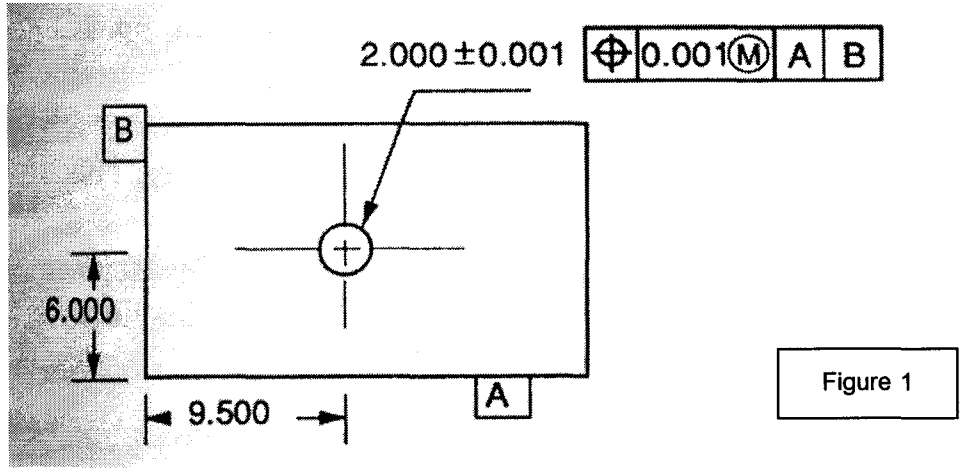
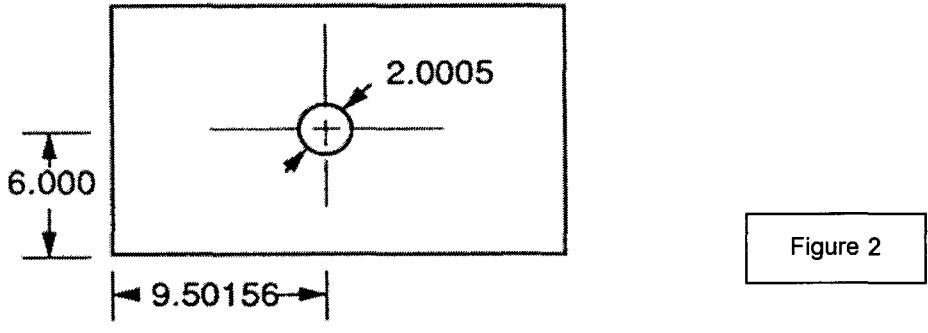

Figure 1
Figure 2
2. Show the setup required for inspecting the part in figure 1. A part being inspected has the dimension , inch unit , shown in figure 2. Please answer the questions. (10 points)
- 2.1 Describe the meaning of geometric tolerancing symbol in figure 1. (2 points)
- 2.2 Is a part in figure 2 acceptable? Why? (2 points)